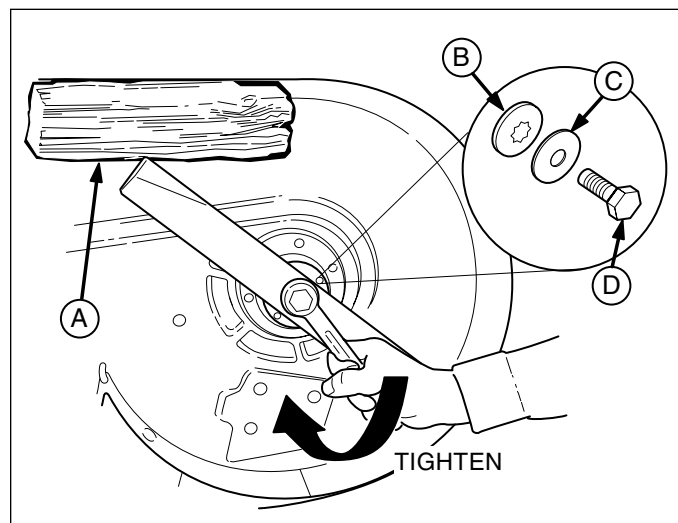

Figure 19. Installing The Blade
6. Reinstall each blade with the tabs pointing up toward deck as shown in figure 19. Secure with a cap screw (D), cup washer (C) and spline washer (B). Use a wooden block to prevent blade rotation and torque cap screws to 45-55 ft.lbs. (61-75 Nm.).